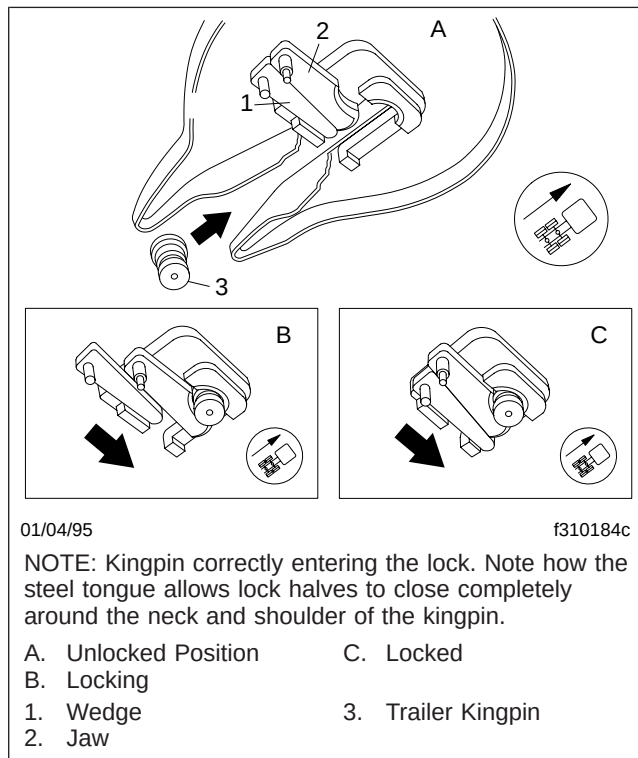

Fig. 10.3, Fontaine Kingpin Lock Mechanism
The Fontaine fifth wheel lock mechanism (Fig. 10.3) for the trailer kingpin consists of a spring-loaded jaw and a sliding wedge. The jaw and wedge each have a pin permanently attached. The pin on the jaw and the pin on the wedge fit into elongated notches in the release handle. The notches in the handle control the limit of movement for both the jaw and wedge. The notches are arranged so that the wedge is actuated first during release of the kingpin.
3. Position the tractor so that the fifth wheel lock opening is in line (both vertically and horizontally) with the trailer kingpin. The kingpin should be in a position to enter the throat of the locking mechanism, as shown in Fig. 10.3. Adjust the trailer landing gear to give enough alignment height for positive kingpin lockup.